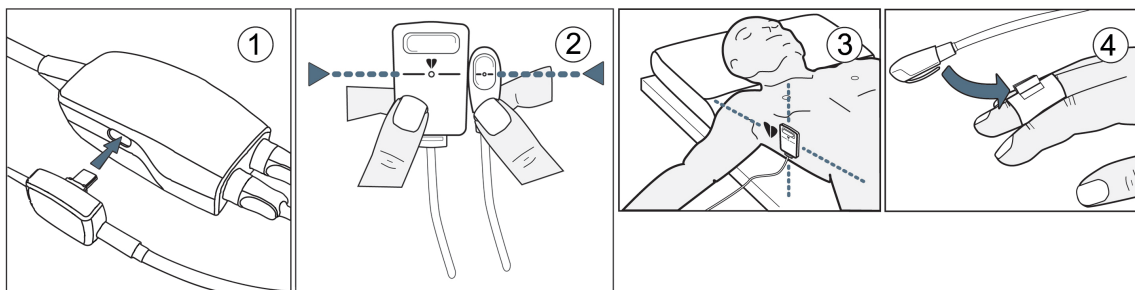

Figure 11-4: Heart reference sensor application
1. Connect the HRS to the pressure controller. See (1) in Figure 11-4 on page 194.
2. Vertically align both ends of the HRS and touch the zero button. See (2) in Figure 11-4 on page 194.
4. Apply the heart end of the HRS to the patient at phlebostatic axis level by using an HRS clip. See (3) in Figure 11-4 on page 194.
5. Attach the other end of the HRS to the finger cuff. See (4) in Figure 11-4 on page 194.